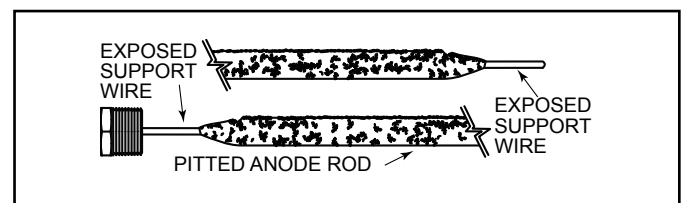

Figure 51
- Significant sections of the support wire (approx. 1/3 or more of the anode rod’s length) are visible (see Figure 51).